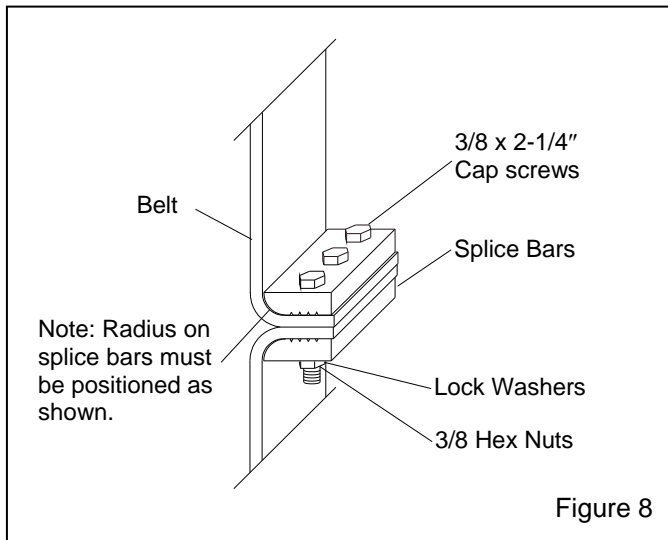

Figure 8
**3.5.3** Install the splice bar as shown in Figure 8. Remove the threading rope. Make sure the splice bar bolts are evenly tightened, and the two ends of the belt are aligned properly, as the splice bar is tightened.